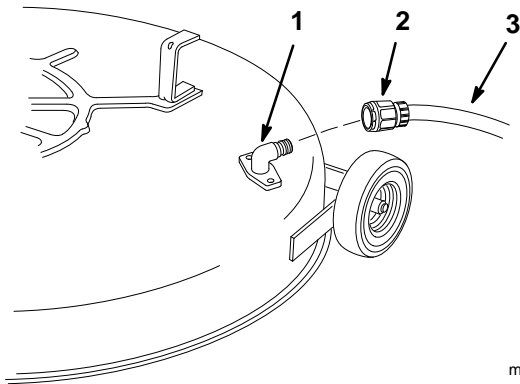

Figure 31
2. Attach hose coupling to the end of the mower washout fitting, turn water on high (Fig. 31).